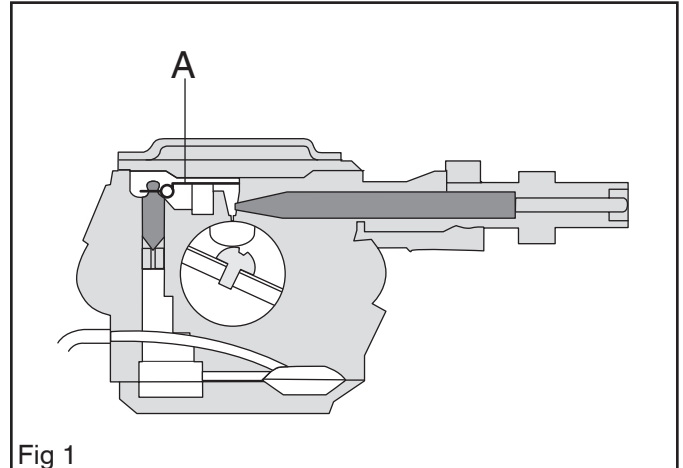

Fig 1
The jets and the fuel's control functions are located in the metering unit (A). Here the correct quantity of fuel is adjusted for the actual speed and power output. See Figure 1.